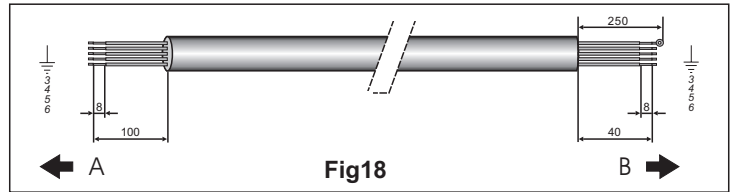

Fig.18 A.OUTDOOR B.INDOOR
- Prepare the multiple wire(7)cable ends for connection as shown in fig.18.